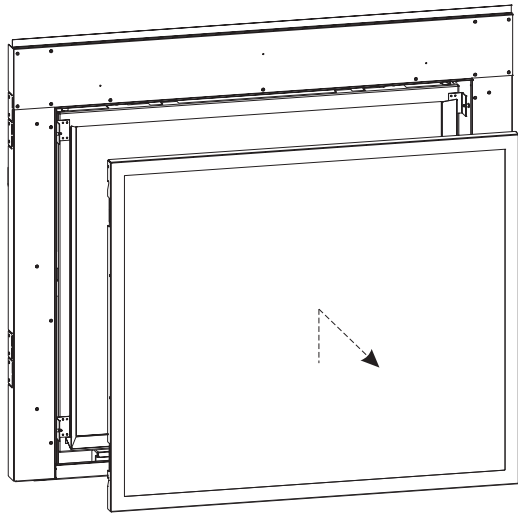

Figure 103
2. Use the Glass Latch Tool to grip the latch bar and pry it over the Glass Frame hook flanges. Tilt the Glass Frame towards you and pull upwards to remove it from the unit. **See Figures 103 and 104.**